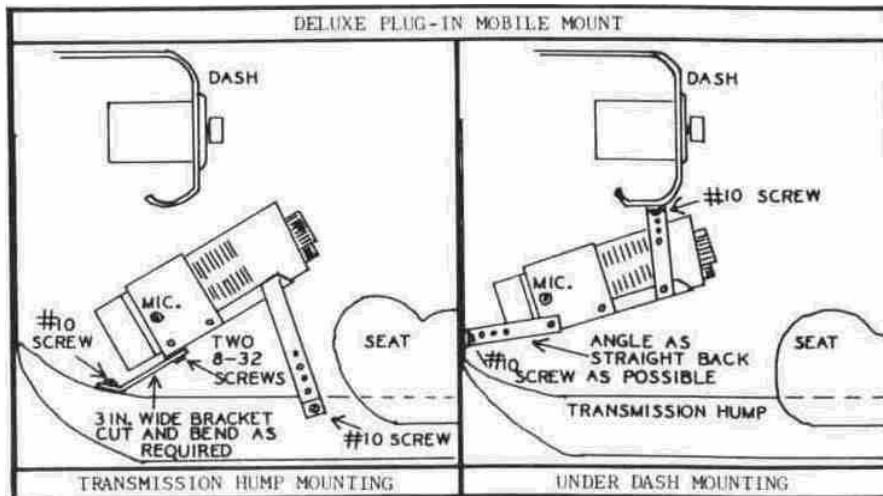

Figure 2-3. Deluxe Plug-in Mobile Mounting Kit Installation
- (e) 3 inch wide rear bracket; (f) Package of screws and terminal lugs. Refer to Figure 2-3 for typical transmission hump and under dash mounting arrangements.